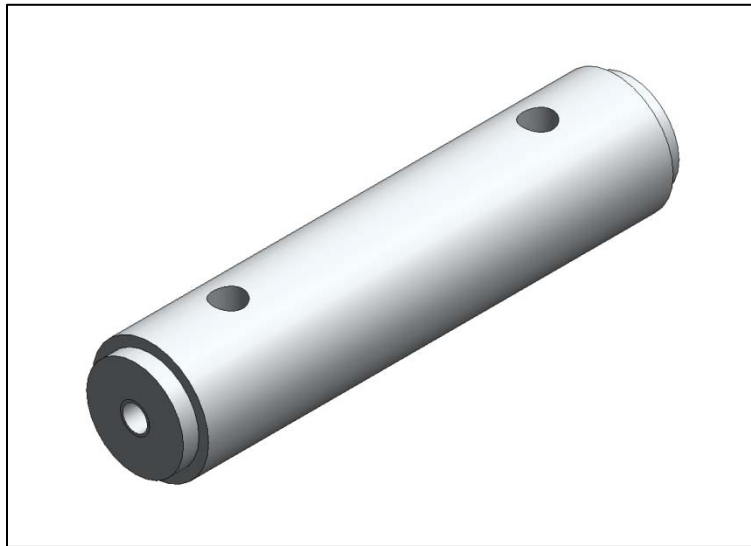

Figure 4.1 – Post with end bosses and extra holes in OD
- One basic method to align parts is to use posts with bosses on both ends. Figure 4.1 shows an example of a post which incorporates bosses to aid alignment.